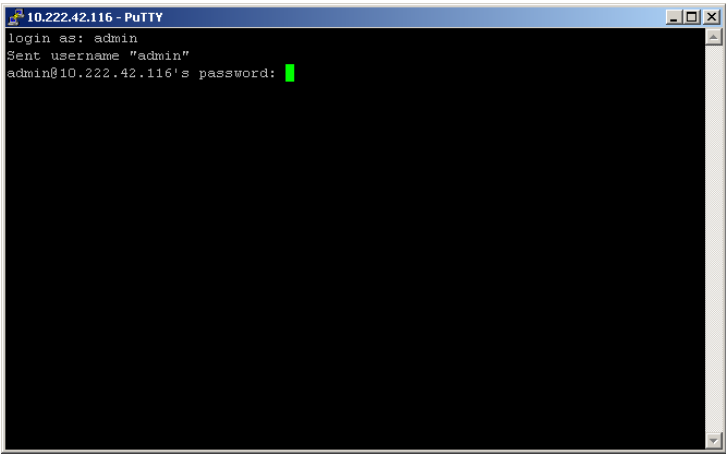

Figure 31. Username and Password Window
- 7. Log in with the *username* and *password*. The default username and password is admin (see Figure 31).